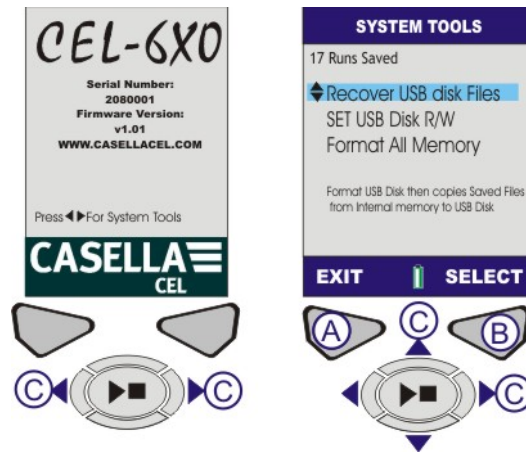

Figure 17 System Tools
J. SYSTEM TOOLS (Refer to Figure 17)